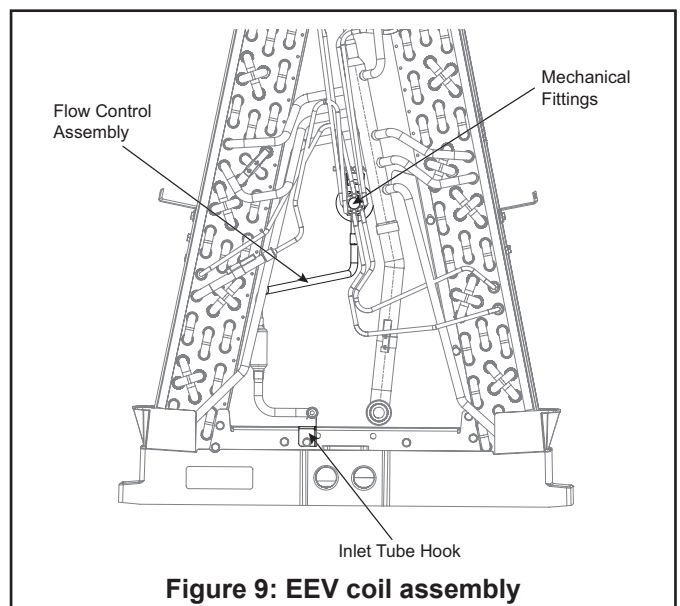

Figure 9: EEV coil assembly
4. Remove EEV flow control assembly by loosening the mechanical fitting using a back-up wrench. See Figure 9. Remove and keep distributor insulation if equipped.
3. Using a back-up wrench, install the EEV assembly to the replacement coil. Take care not to over tighten these fittings, as they may become deformed and cause leaks. Inlet tube should be in the orientation such that it clips to the inlet tube hook. See Figure 9.